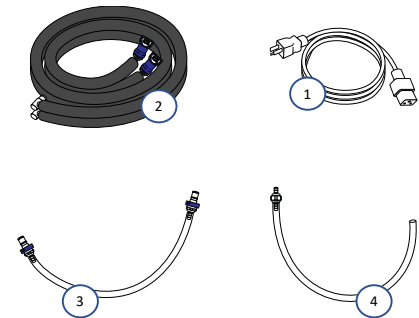

Figure 2. Delta Connection Kit
2. **Connection Kit (Figure 2)**